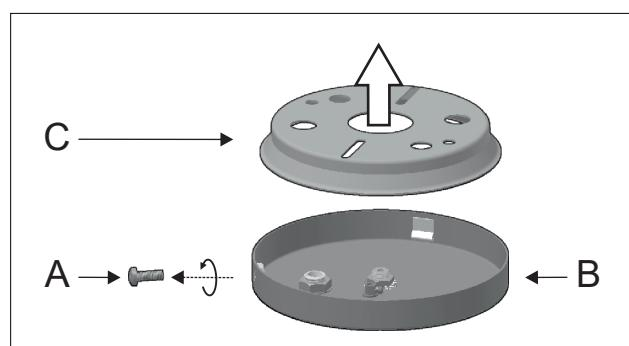

Figure 1
- 1 - Unscrew the lateral screw (A) to remove the canopy (B) from the mounting bracket (C). Figure 1.